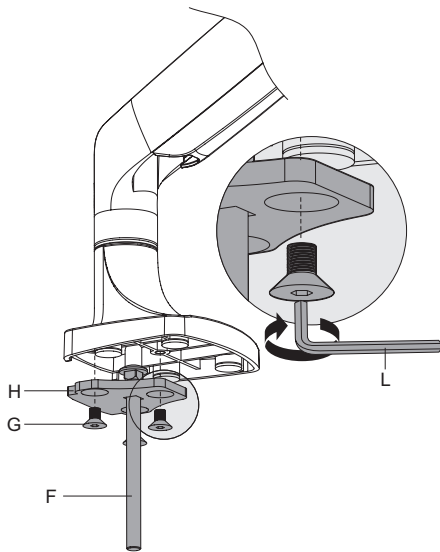

Figure 5
1. Insert the Grommet Bolt (F) into the Grommet Plate (H), see Figure 5
2. Attach the Grommet Plate (H) to the Extension Arm (A), secure them using Bolt (G) with Allen Key (L) turning clockwise until tight, see Figure 5.